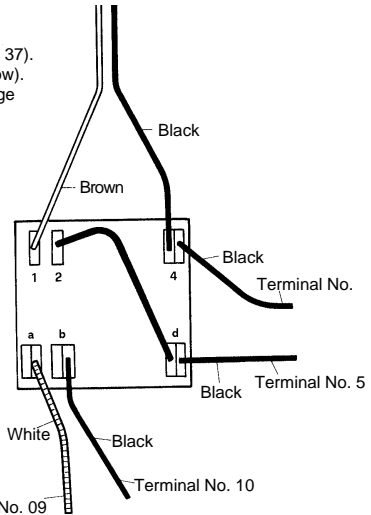

Fig. 42
- b) Disconnect the electrical connections to the selector switch (fig. 42).
- e) Re-assemble in reverse order (refer to fig. 42 for wiring). Check the operation of the new switch.